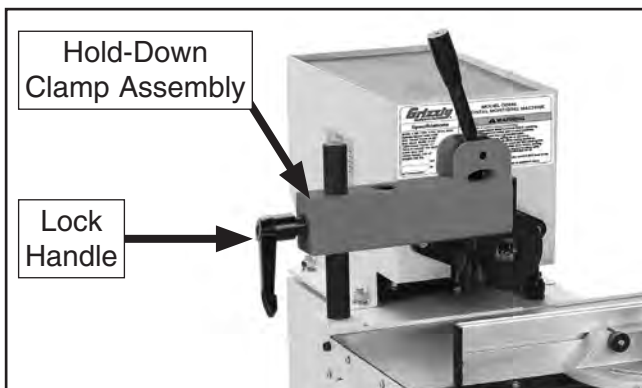

Figure 8. Lock handle attached to hold-down clamp assembly.
1. Loosely attach (1) lock handle to hold-down clamp assembly (see **Figure 8**).